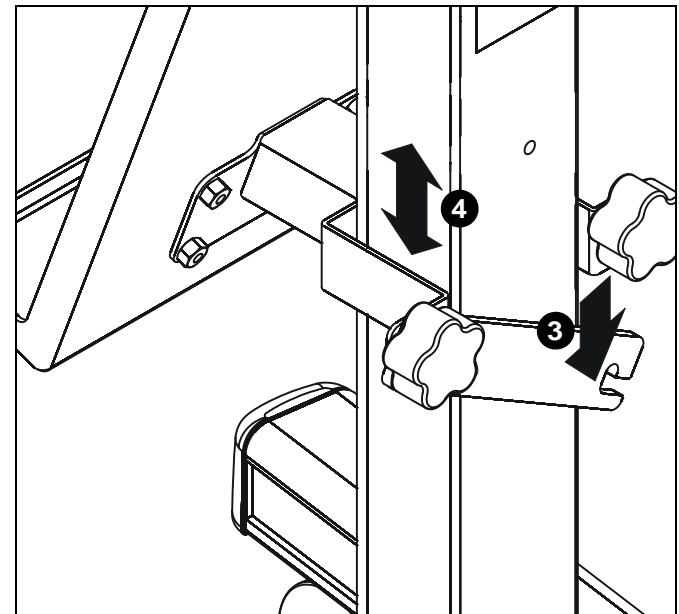

Figure 8
3. Let the bracket drop down and hang from the shelf's left stud. (See Figure 8)
4. Adjust literature tray to desired height. (See Figure 8)